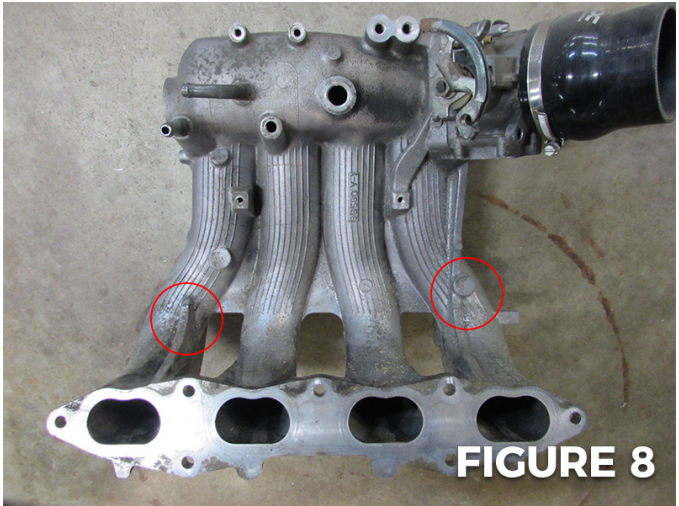

FIGURE 8
1. You will need to grind the casting that is circled. This does not weaken the manifold, and does not remove material from the runners. (Figure 8 - 10)